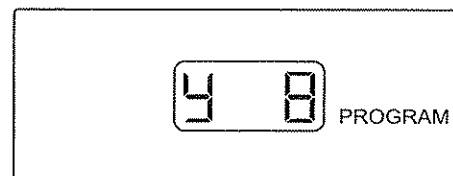
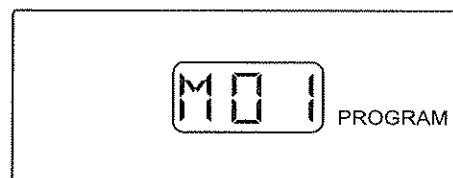

Figure 2-11
Figure 2-12
1. The first thing that you will adjust is the Year (Y). Pressing the **SET** button for 3 seconds will cause the center digit after the Y to flash (see Figure 2-11). This should remain a 0 until the year 2010, and then it will be changed to a 1. Pressing the up and down arrow buttons will adjust the value of this digit. When you have selected the number that you want, press the right button to adjust the right digit in the same manner with the up and down arrow buttons. When you have the proper number displayed for the year (Y) press and hold the **SET** button for 3 seconds until the monitor beeps twice and the display flashes twice. (The monitor will now display like Figure 2-12.)